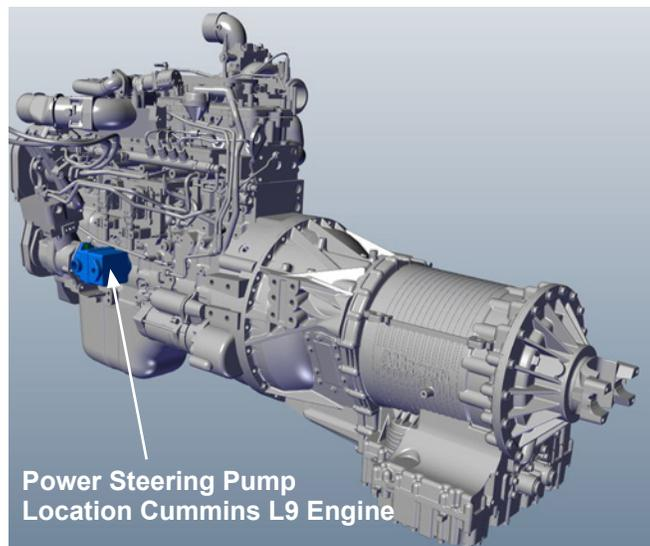
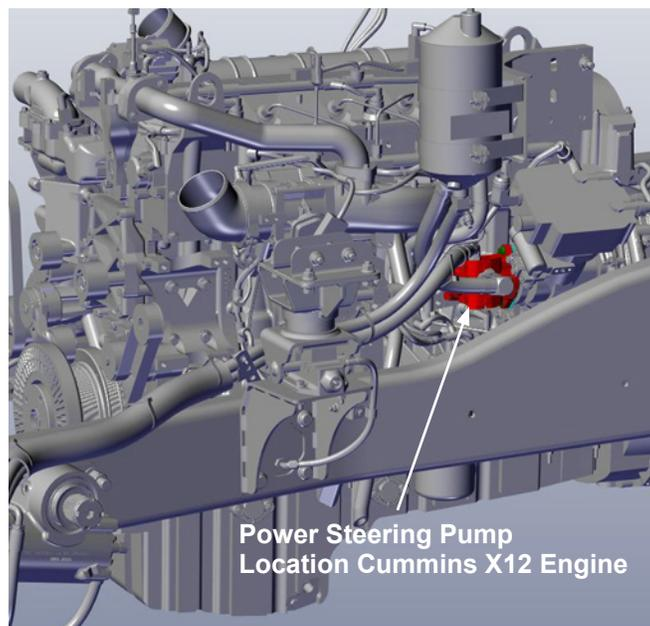

Figure 1, Cummins L9
Figure 2, Cummins X12
2. Locate the power steering pump for the Cummins L9 engine (see Figure 1), or for the Cummins X12 engine (see Figure 2).